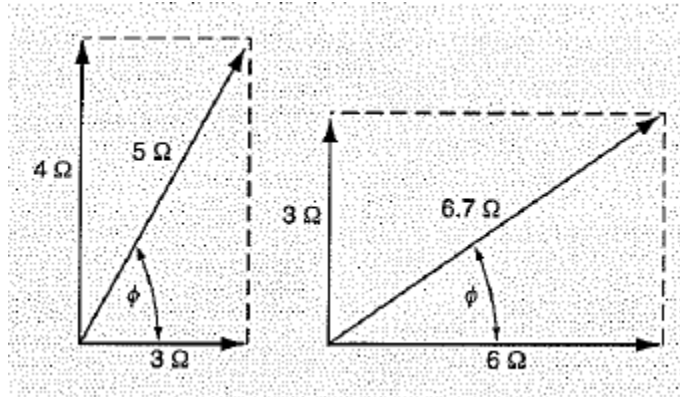

Figure 2.8: Impedance Vectors
- 2-34 Parallelograms and triangles are closely related. You can construct one figure from the other. For example, draw a diagonal line from one corner of a parallelogram in Figure 2.8. The diagonal creates two right triangles that are reversed but otherwise identical. The diagonal serves as the hypotenuse of both triangles.
- 2-36 How you can use the triangle-parallelogram combination becomes more apparent in Figure 2.8. In both diagrams, the length of the horizontal line represents resistance values. The vertical line represents the reactance.
- 2-38 The phase angle,  $\phi$ , is labeled in both diagrams in Figure 2.8. The angle is considered positive if the resultant vector lies above the horizontal line, as in the diagram on the left. It is negative if the resultant lies below the horizontal.